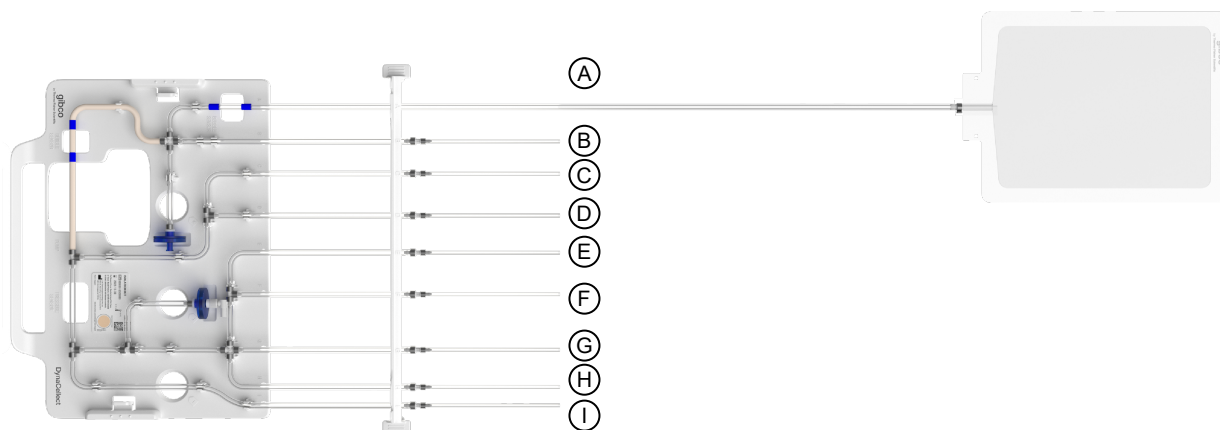

Figure 2 Example consumable configuration of isolation kit for CTS™ Detachable Dynabeads™ CD3/CD28 for release.
- Prepare the consumables as shown in Figure 2. For the type of bags, content, and volumes see Table 6. Place a clamp on any filled bags.
- Weld the bags to the CTS™ DynaCollect™ Cell Isolation Kit, following the configuration shown in Figure 2. Hook the bags onto the bag hangers.